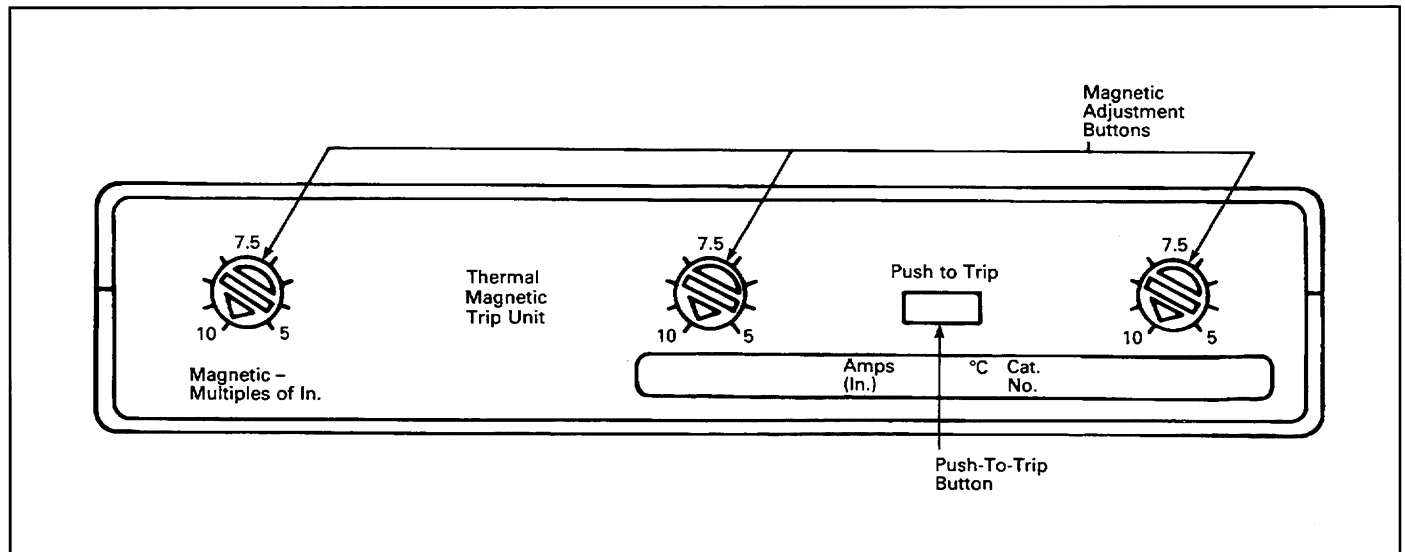

Fig. 2-2 Trip Unit Magnetic Adjustment Buttons
**Magnetic Trip:** The magnetic trip on each pole may be adjusted by turning the adjustment button with a screwdriver (see Fig. 2-2). Trip units are shipped from the factory with the buttons set in the high position. In the magnetic trip region (above  $6 \times I_n$ ), the trip current levels can be up to approximately 40 percent higher for DC than for AC, depending on the rating.
- 2-10. Press PUSH-TO-TRIP button with a small screwdriver to check manual tripping of the circuit breaker (see Fig. 2-2).
The magnetic element of each pole of the trip unit can be adjusted by rotating the adjustment buttons on the front face of the trip unit with a screwdriver. The buttons have several settings as indicated on the nameplate with values in multiples of the trip unit ampere rating ( $I_n$ ) as shown in Fig. 2-2.
- 2-11. Adjust magnetic pick-up settings as required (see Fig. 2-2).